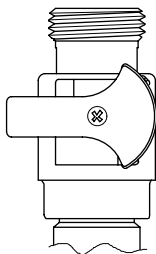

Figure 1
- Ensure the Probe Valve on the Perlick Smart Coupler is in closed position. *See figure 1.* Ensure the Beer Pump Backflush/Dispense handle is in the dispense position (Dispense marking is on top). Adjust the **Secondary Air/CO₂ regulator** located on the beer pump panel to a minimum operating pressure of 25 psig.
- Close probe valve on Perlick Smart Coupler. (*See figure 1*) and disconnect coupler from regulated water source.